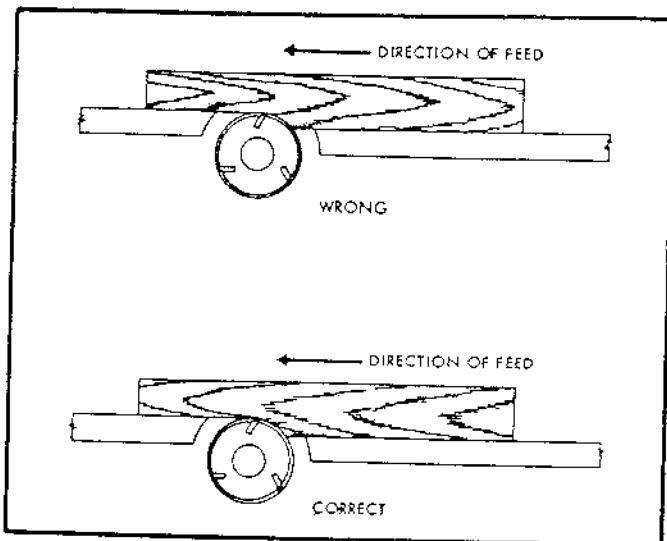

Figure 3. Jointing with the Grain
1. Avoid jointing or surfacing against the grain of the wood whenever possible. (See figure 3.)